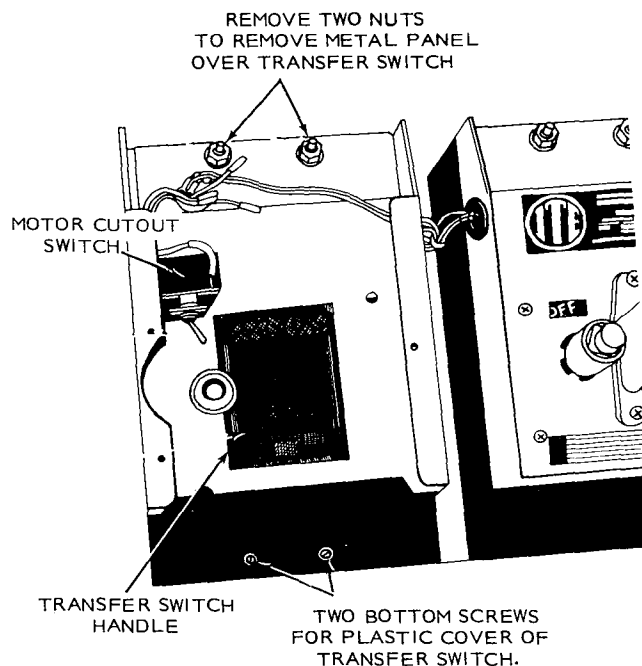

**FIGURE 21. GEAR AND DRIVE ASSEMBLY OF TRANSFER SWITCH**
15. Remove the Phillip screws previously loosened, grab hold of the small panel, gear and drive shaft assembly, and pull straight out (Figure 21).